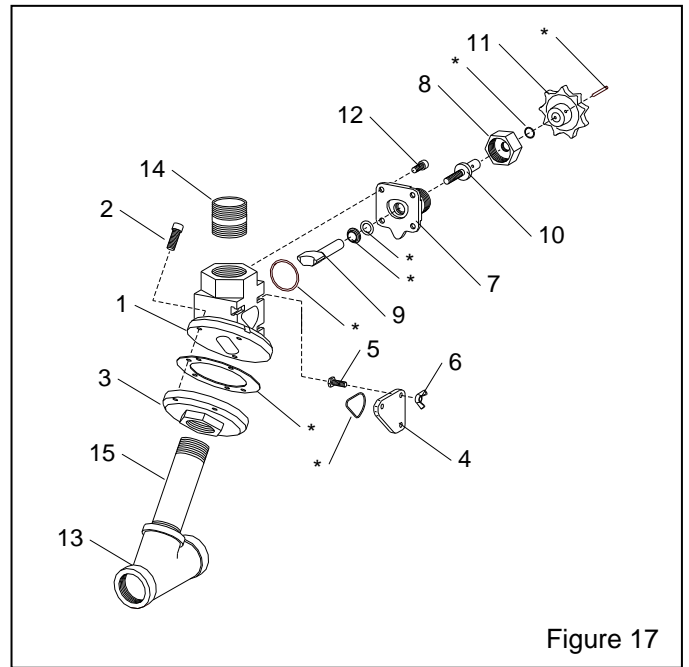

Figure 17
8.4 Quantum Manual Metering Valve, Figure 17